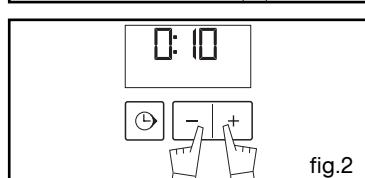

fig.2
- Press simultaneously on the + and - touch controls for about ten seconds until “CO” is displayed, in order to enter the adjustment mode (fig.2).